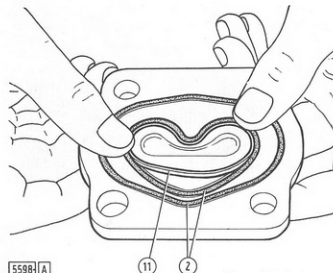

Fig. 235 - Refitting Seal Retainer to Pump Cover
- Plastic seal retainer (11) is to be inserted on the inside of the inner seal (see Fig. 235).